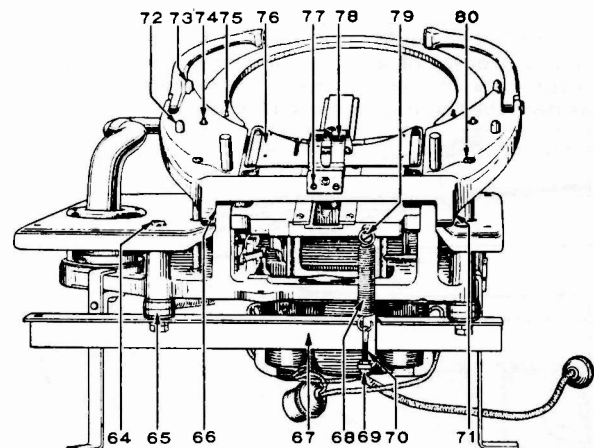

Fig. 11—Automatic Mechanism Back View
- Record guide pins 74 or 75, Fig. 11, not fitting properly in holes of lift ring. This fit should allow a free vertical motion of the pins, but a minimum side motion.
9. LIFT RING RISES TOO SLOWLY—If the lift ring rises too slowly with a resulting strain on the mechanism, or if it descends too fast, increase the tension of the spring 68, Fig. 11, in the back of the mechanism in the following manner:
10. LIFT RING RISES TOO FAST—If the lift ring rises too fast, if it descends too slowly, or if it touches the under side of the record on the turntable during playing, decrease the tension of the spring 68, Fig. 11, in the following manner: